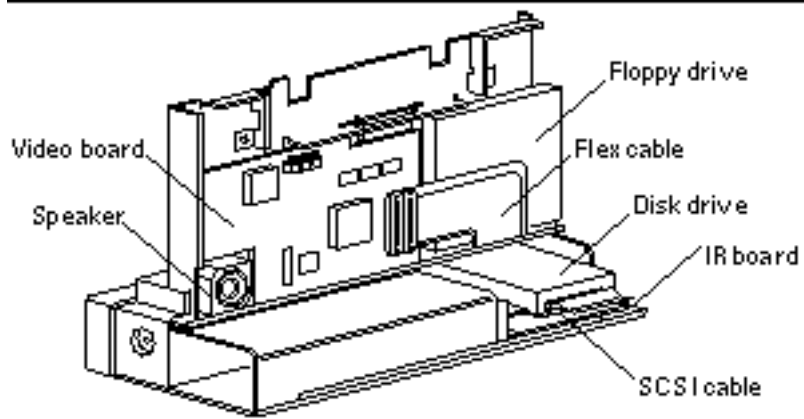

Figure 1-3 Front View—Internal
- Figure 1-3 shows the internal front view